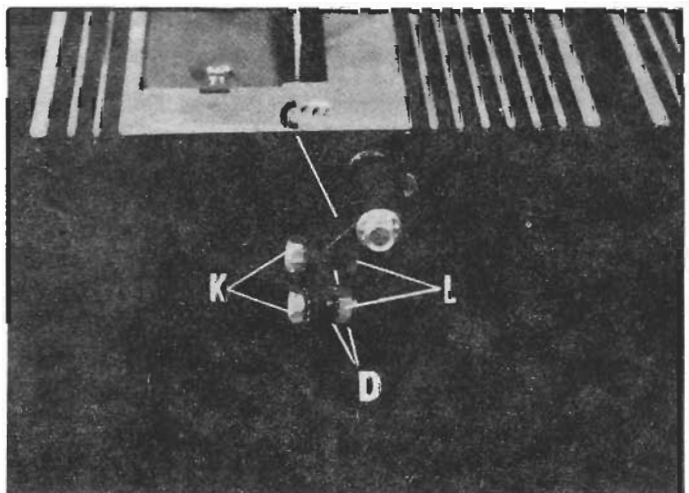

Fig. 21
7. Assemble the two 3/4" long hex head screws (K) Fig. 21 to the spreader bracket (C) using the two 1/4" external tooth lockwasher (D) and two 1/4" nuts (L) as shown.